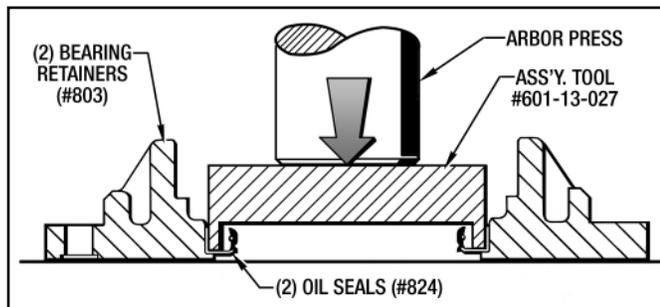

Figure 9.1 - Installing Oil Seal (#824)
2. Install both Oil Seals (#824) into Bearing Retainers (#803) with an Arbor Press and Assembly Tool #601-13-027 as shown in *Figure 9.1*. Clean off any excess Permatex.